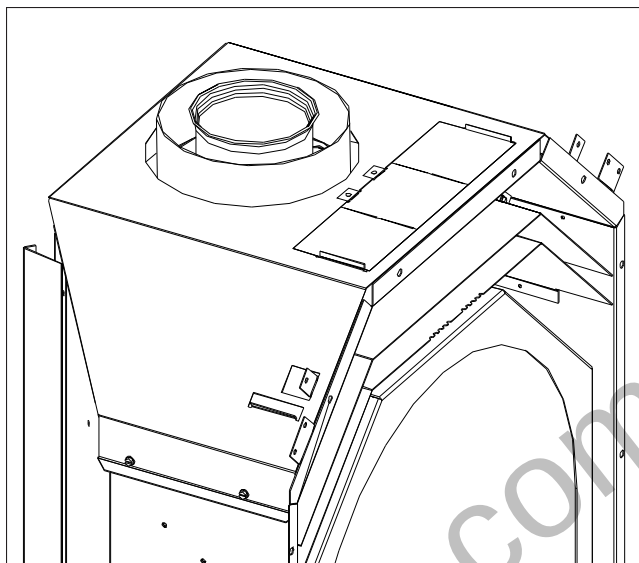
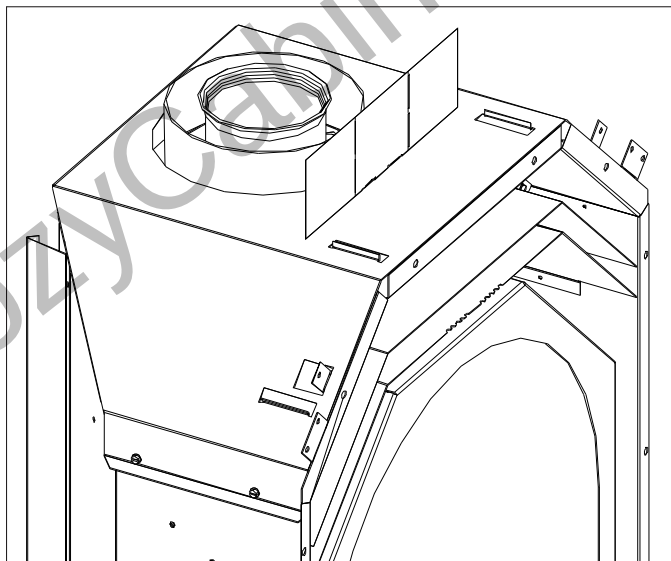

Figure 14. Vent Heat Shield Flat.
Figure 15. Vent Heat Shield Bent Up.
1. The heat shield is shipped flat (see Figure 14). The flat shield must be bent up 90° to the top of the unit (see Figure 15).